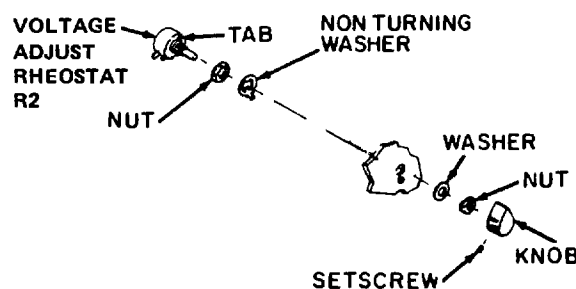

Figure 4-29. VOLTAGE ADJUST Rheostat R2, Removal and Replacement
(2) Connect ohmmeter to rheostat and check ohmic value while rotating rheostat knob. Rheostat ohmic value should vary smoothly the full range 0 to 25 +/-10 ohms. Replace defective rheostat.
(3) Close control panel and secure in place. Connect electrical connector J1 to control cubicle.
d. Replacment. Unsolder and tag leads going to R2. Remove and replace R2 as illustrated by figure 4-29.